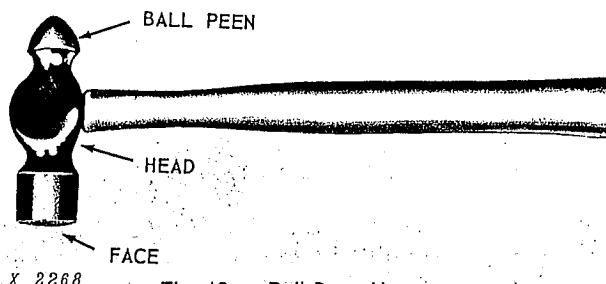

Fig. 13.— Ball Peen Hammer
**Ball peen hammers** (Fig. 13) are most commonly used by shop service technicians. The flat face is for hammering and the ball part is for foundering off rivets and similar jobs.